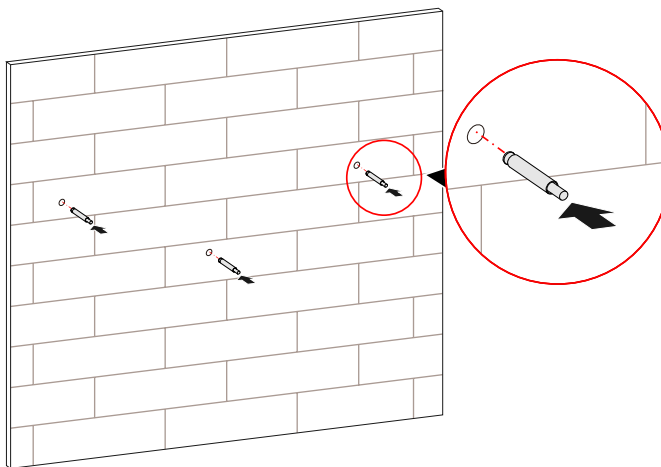

Figure3-9 Install expansion bolts
Step 3 Install the equipped three expansion bolts M6*60 into the holes, as shown in Figure3-9.